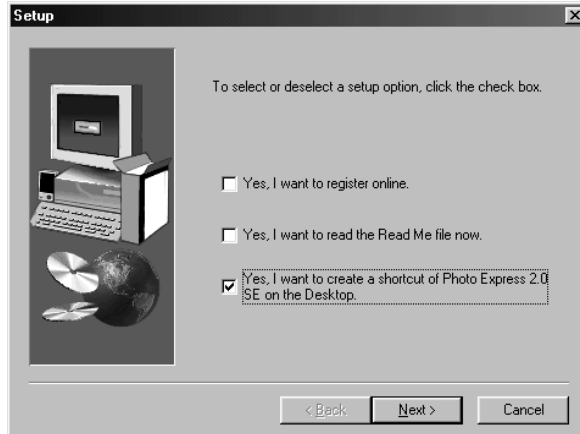

Figure 38: Installing PhotoExpress 2.0
- Click on 'Next' (Figure 37). PhotoExpress will now be installed. Figure 38 will pop up after the installation is completed.
- Select the option 'Yes, I want... ..on the Desktop' only (Figure 38).
13. Click on 'Next' to continue. (Figure 38)